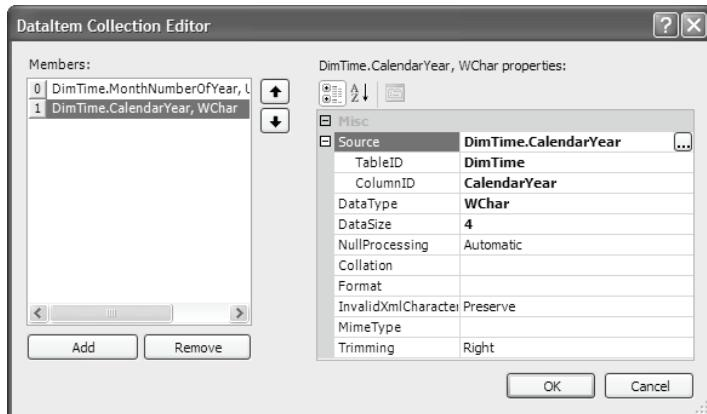

Figure 4.32 Use the DataItem Collection Editor to set up an attribute key collection.
- Select the CalendarYear column. Click OK to close the dialog and return to the DataItem Collection Editor (Figure 4.32).